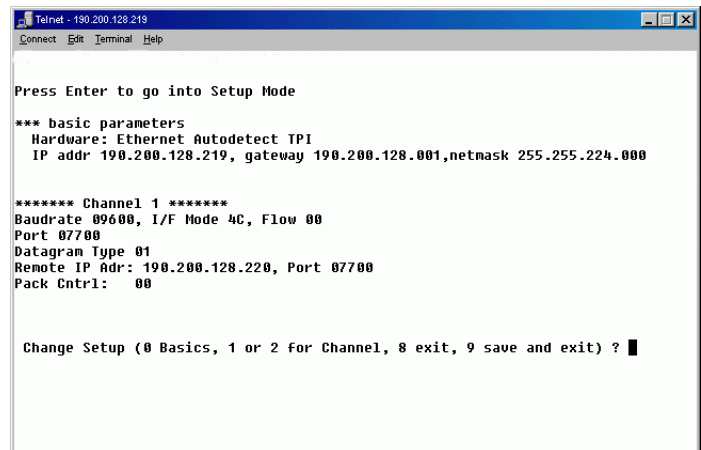

Figure 38: Telnet Session
8. If you pressed [ENTER] within 5 seconds, then you should see the following screen (See Figure 38:).